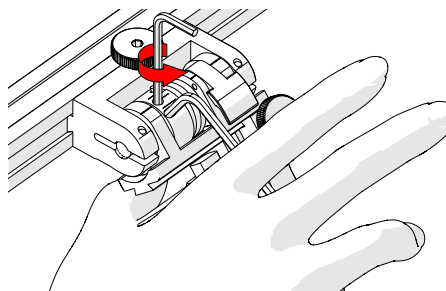

Fig. 68 - Press 3 mm hex wrench down
5. Lightly press the long leg of the 3 mm hex wrench down. Using the 2 mm hex wrench, loosen the force adjustment screw but do not remove it (Fig. 68).